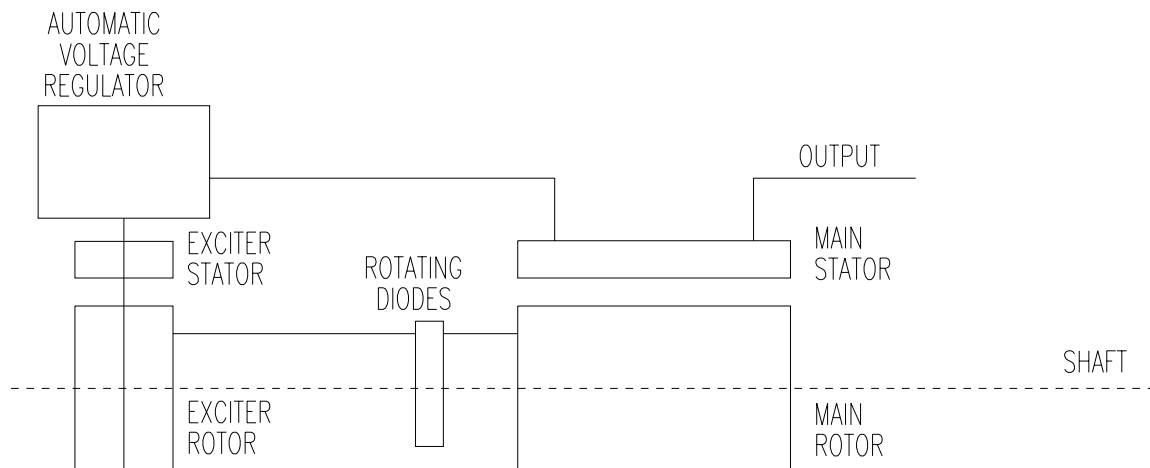

Figure 1-9. Main Stator and AVR Interface
1.17.2. Main Stator and Automatic Voltage Regulator (AVR) Interface. The main stator provides power for excitation of the exciter field through the AVR (the controlling device governing the level of excitation provided to the exciter field) (Figure 1-9). The AVR responds to a voltage sensing signal derived from the main stator winding. By controlling the low power of the exciter field, control of the high power requirement of the main field is achieved through the rectified output of the exciter armature.